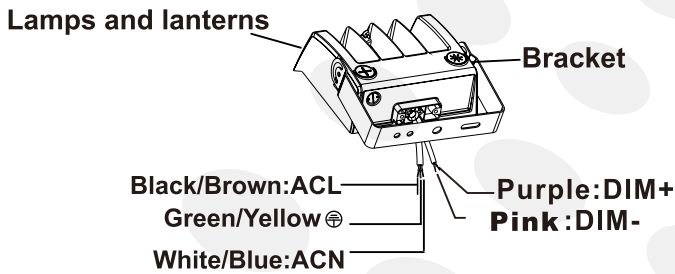

figure 1.3
Step 2: Finish the wire connection according to the right mode of connection (pay attention to positive wire, negative wire, and ground wire). (figure 1.3)